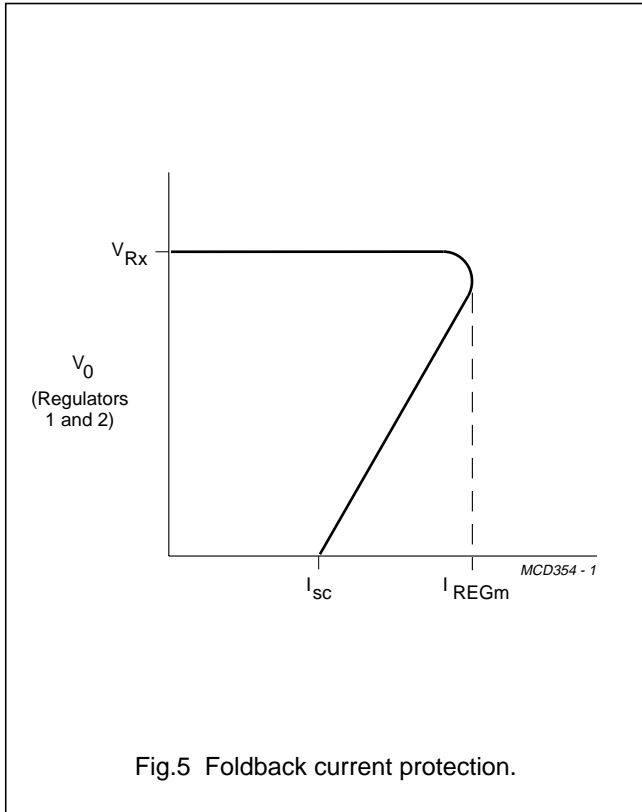

Fig.5 Foldback current protection.
4. The foldback current protection limits the dissipated power at short-circuit (see Fig.5).
6. At current limit,  $I_{REGm}$  is held constant (behaviour in accordance with the broken line in Fig.5).